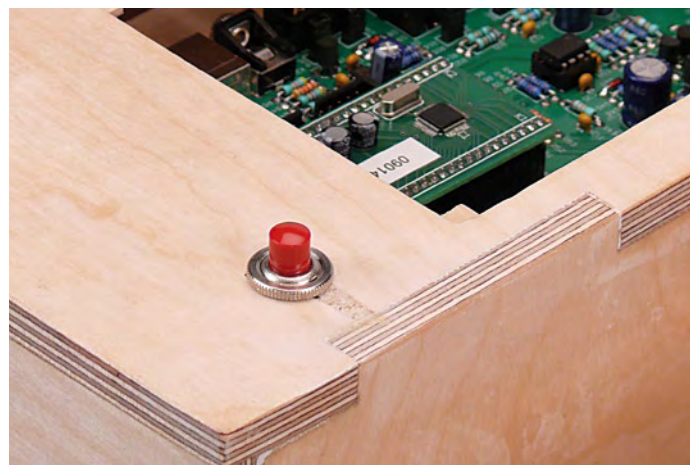

Figure 10. The emergency stop button needs to be accessible!
The system we've adopted has the merit of being simple and effective. The emergency stop button (refer to **Figure 10** for fitting) is simply connected in parallel with the CBRM board reset button, via connector K4. As soon as you release the button, the microcontroller will restart, and will lose no time putting the throttle servo into the 'throttle closed' position, thereby stalling the motor. You should use a simple normally-open (NO) push button, sturdy enough to withstand 'beefy' pressing. A locking industrial-type 'emergency stop' button will not